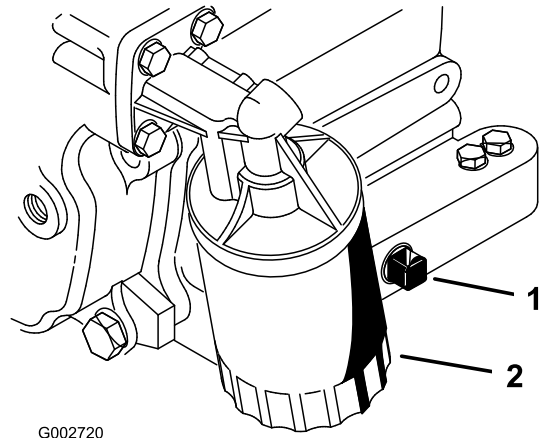

Figure 26
2. Remove the drain plug (Figure 26) and let oil flow into a drain pan. When the oil stops, install the drain plug.
3. Remove the oil filter (Figure 26). Apply a light coat of clean oil to the new filter gasket.